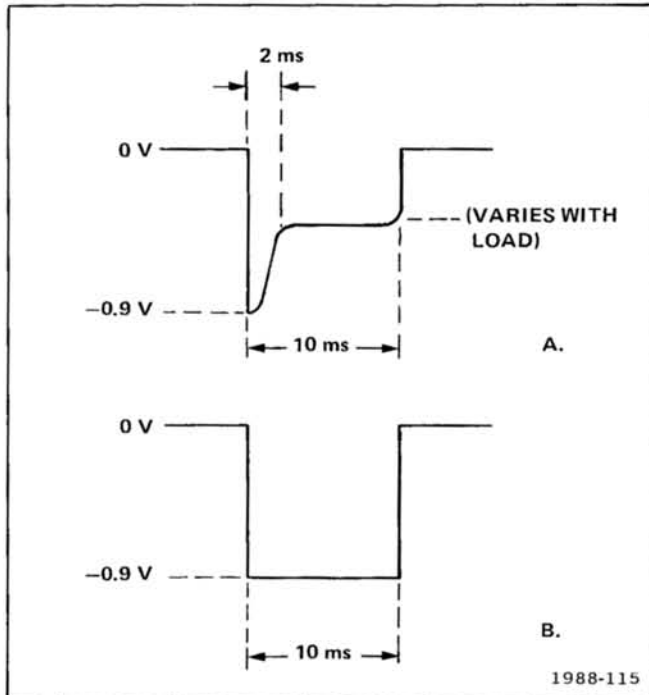

Figure 5-4. Current sensing waveform at R84 showing: A) Power supplies not in current limit operation. B) Power supplies in current limit operation.
3. Compare the waveform on the test oscilloscope to those shown in Figure 5-4. If the waveform resembles that of Figure 5-4A, proceed to Step E of this procedure. If it resembles that of Figure 5-4B, proceed with part 4 of this step.